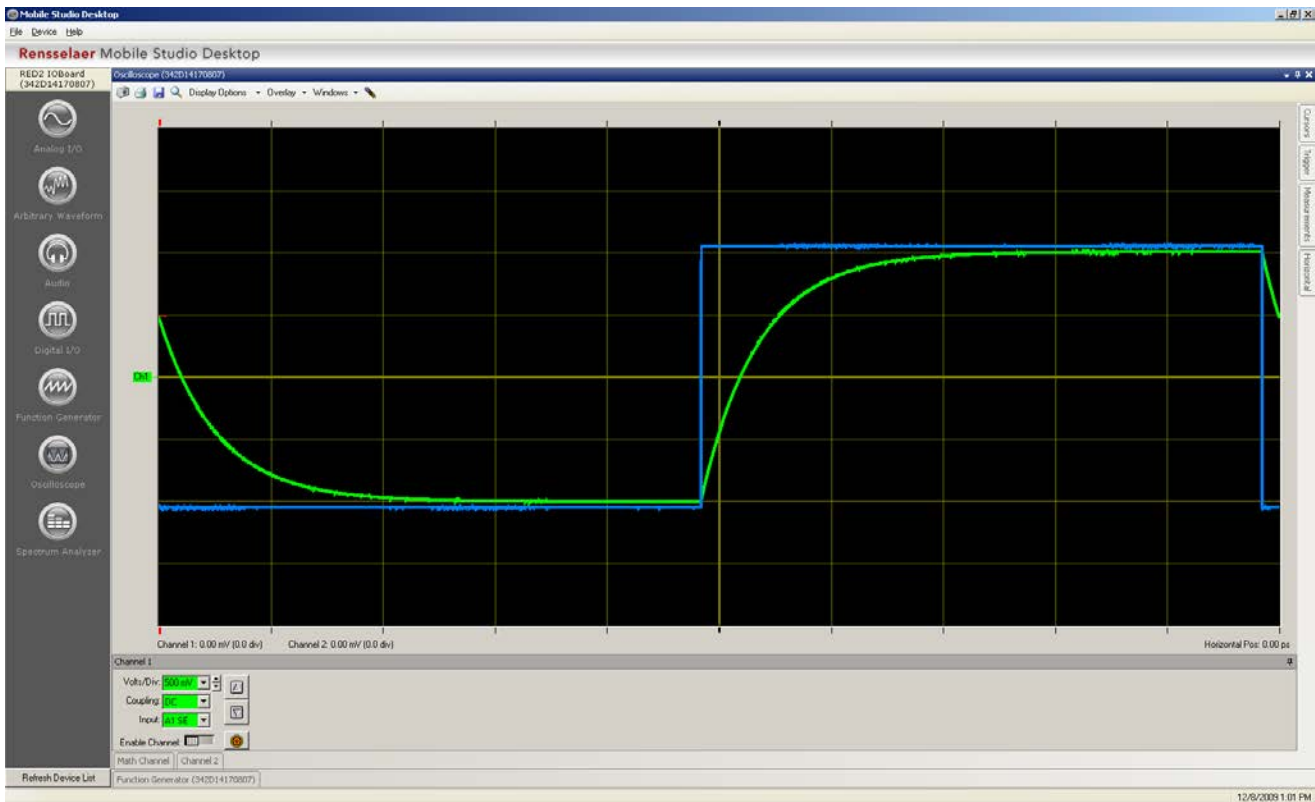

Figure 4. Typical trace for part 9.
- 9) Start the system, by clicking on the **Start/Stop** button in the lower left of the screen. You should get a scope that looks more or less like Figure 4: a capacitor charging and then discharging repeatedly. Note that your screen may not look exactly like this, depending on where the triggering occurs. For example, your signal may start high and then go low.